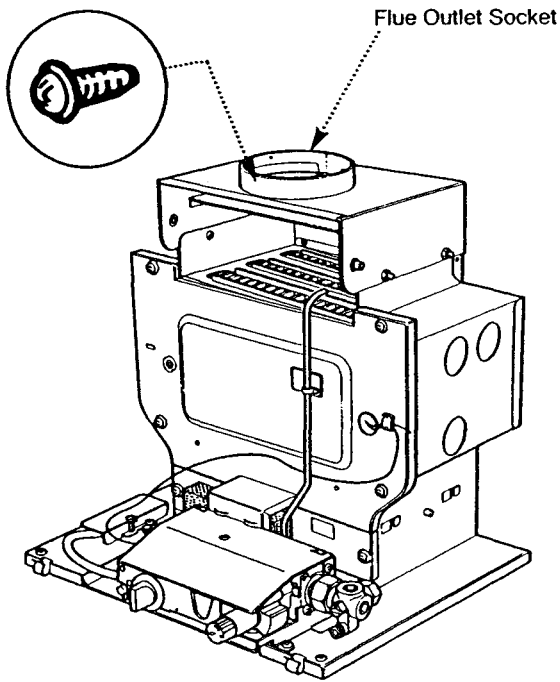

Fig. 25
5.14 Flue Connection (Fig. 25)